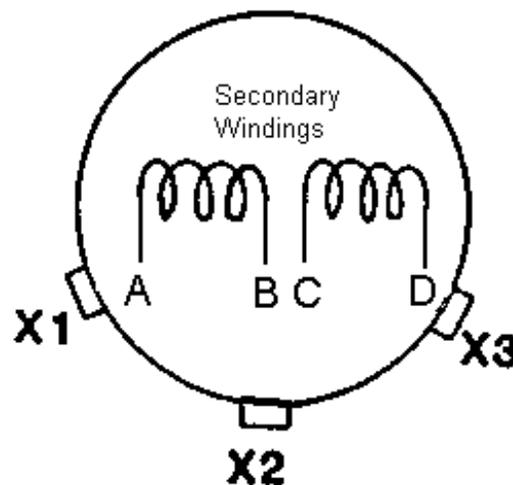

Figure 1, Secondary Windings Identification
1.4. The secondary windings in the transformer are marked with identification tags or stamped directly on the lugs with the letters A, B, C, & D. See Figure 1 below.